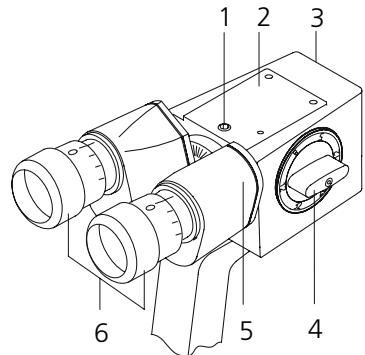

Fig. 2 Stereomicroscope
- Check all detachable connections (e.g. binocular tube, **1**, Fig. 2) prior to each use.